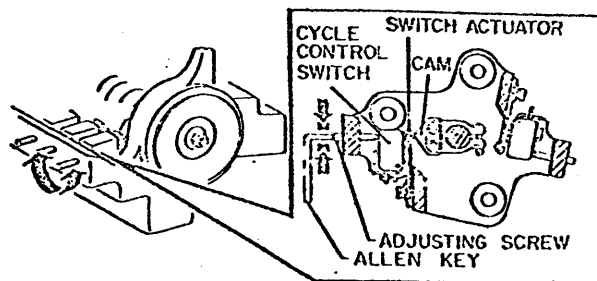

Fig. 3-16. Cycle Control Switches Overtravel
1. Use a screwdriver to rotate the main drive motor shaft counterclockwise until the cam is centered on the switch actuator (Fig. 3-16).